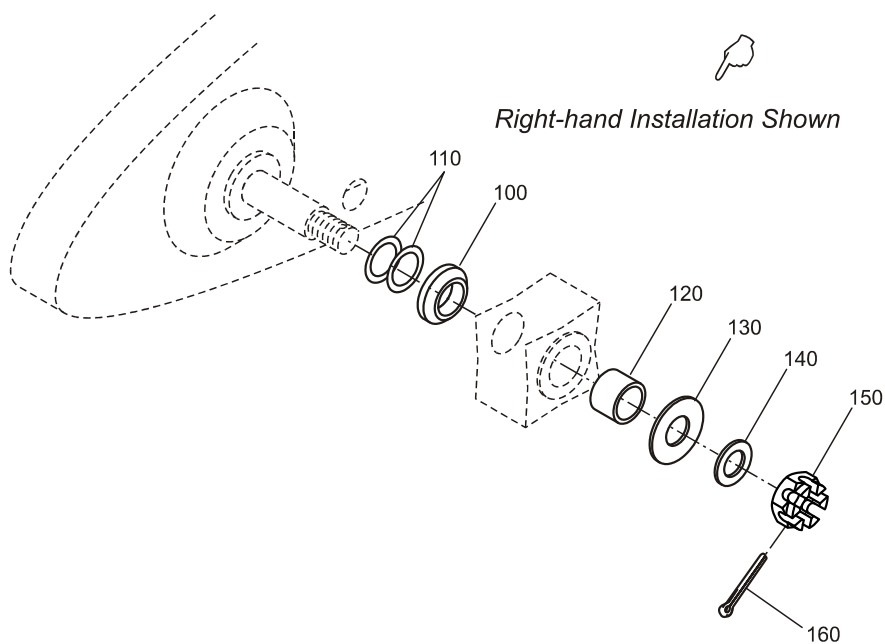

Fig. 3
- 1.8.4. Remove cotter pin LN94-4x30 (Fig. 3, item 160) from each wing shear bolt.
- 1.8.5. Release castellated nut P/N LN9345-M16x1,5 (Fig. 3, item 150) as follows:
- install additional shims P/N 115C-1001.28 (Fig. 3, item 110, thickness 0.5mm) as required